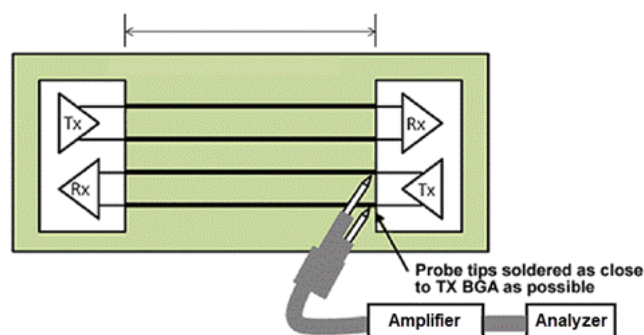

Figure 5 - Probe Tips to the Tx BGA
2. The probe locations should be selected to provide the best possible signal with minimum distortion to the M-PHY channel. If measurements or simulations are not available, as a rule of thumb, this location is typically as near as possible to the Tx output pins. Refer to Figure 5.